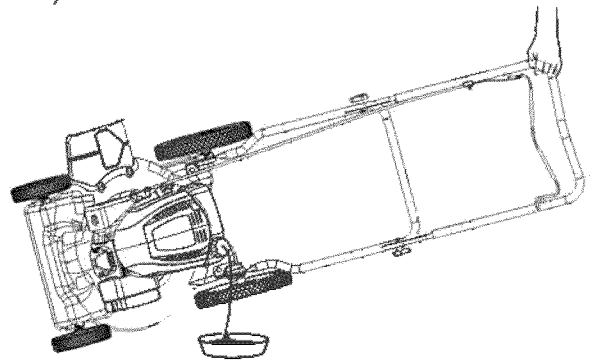

Figure 15
3. Tip the mower onto its side, with the dipstick down, to drain the used oil out through the oil fill tube (Figure 15).
4. Slowly pour oil into the oil fill tube until the oil level reaches the Full line on the dipstick (Figure 15). Do not overfill (Max. fill :20 oz. (0.59 l), type: SAE 30 detergent oil with an API service classification of SF,SG, SH, SJ, SL, or higher.)